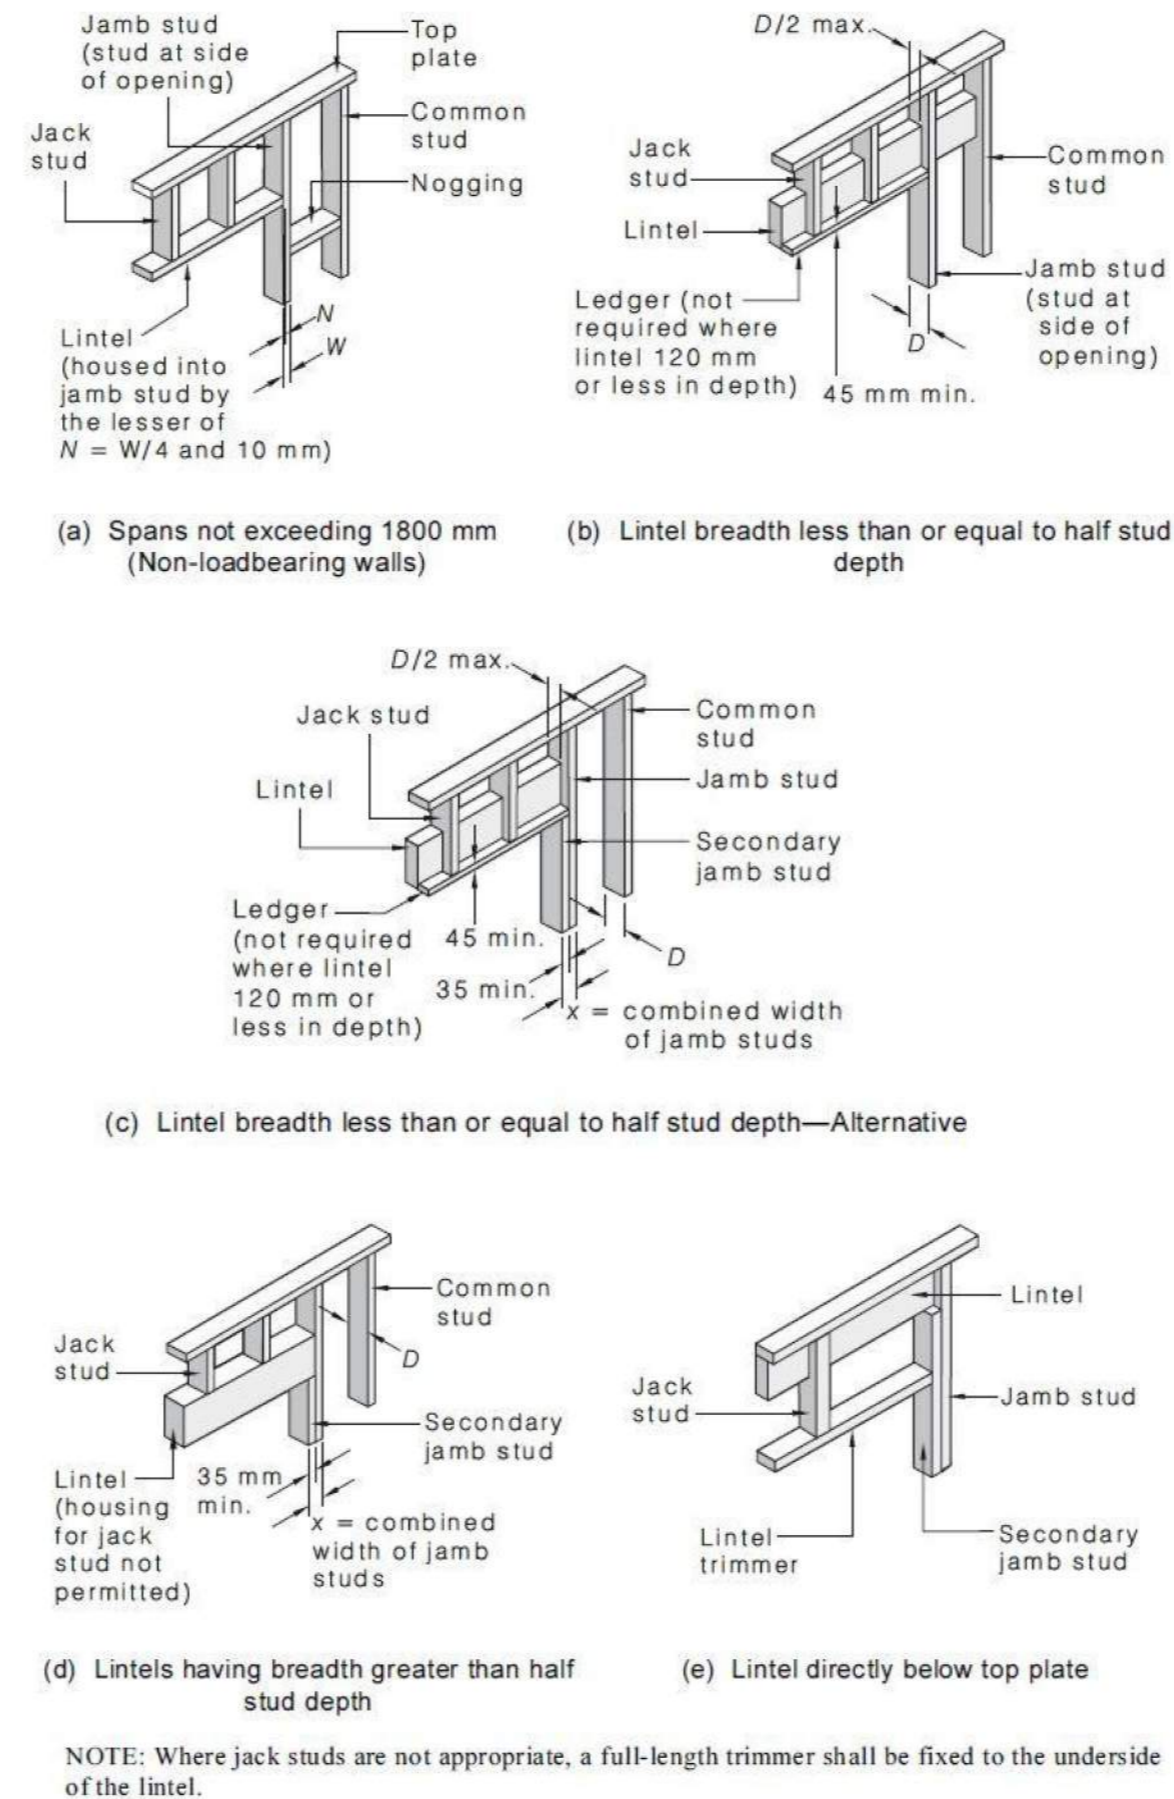

FIGURE 6.8 OPENINGS
**TYPICAL TIMBER LINTEL OPTIONS FOR WINDOW OPENINGS (Below): AS 1684 (Timber Framing manual - Figure 6.8 Openings)**